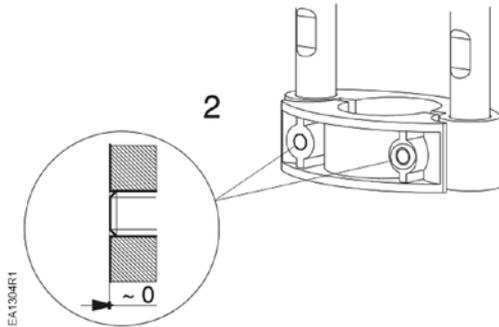

Figure 3.
**NOTE:** Only loosen the screws until flush with brackets; do not remove. See Figure 3.